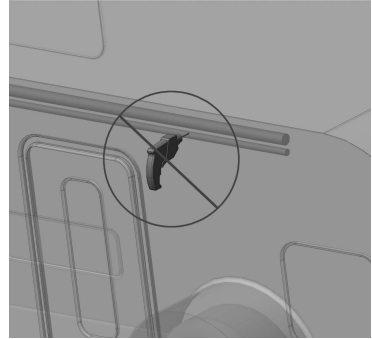

Figure C3
2. Before installation, please check whether there are reinforcing ribs at the position of the vehicle body used to fix the installation bracket, and whether there are obstacles such as water, electricity, and other lines at the drilling position (Figure C3). Or inquire with the vehicle dealer for relevant information.